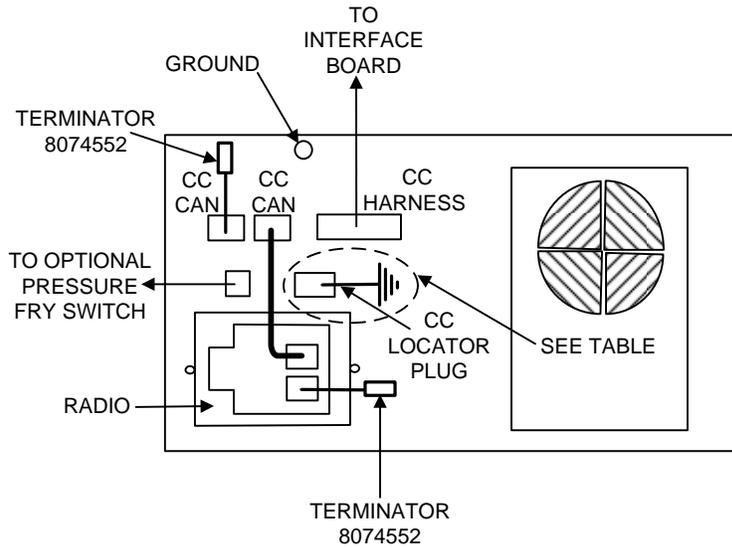

Figure 1: Single fryer controller wiring diagram.
Ensure the connections to other controllers, locator plugs and drain/pressure switches are connected properly. See Figure 1 for single stand-alone fryers.
1. Install a terminator in the two locations illustrated above. See Figure 1.